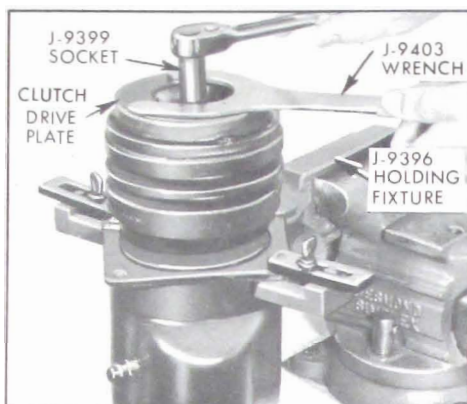

Figure 11-98—Removing Shaft Nut
1. Hold the clutch drive plate hub with J-9403 wrench and use J-9399 special thin wall $9/16''$ socket to remove shaft nut. See Figure 11-98.